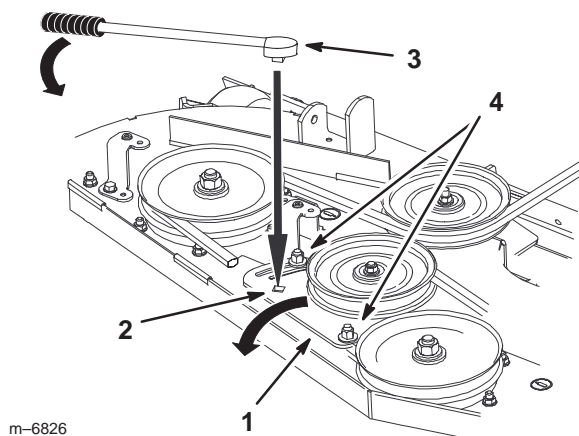

Figure 70
- Loosen the nut securing the idler plate and move the idler plate to relieve the belt tension on the idler pulley (Fig. 70).
5. If adjustment is required, loosen the mower idler plate and adjust it (Fig. 70).
6. Insert a ratchet or breaker bar into the square hole in the mower idler plate to adjust the tension (Fig. 70).
7. To increase belt tension, rotate the mower idler plate until resistance is felt and rotation stops. Do not go past when it stops (Fig. 70).
8. Tighten the idler plate bolts (Fig. 70).
10. Adjust the belt tension and the idler plate, if necessary, and tighten all hardware securely (Fig. 70).